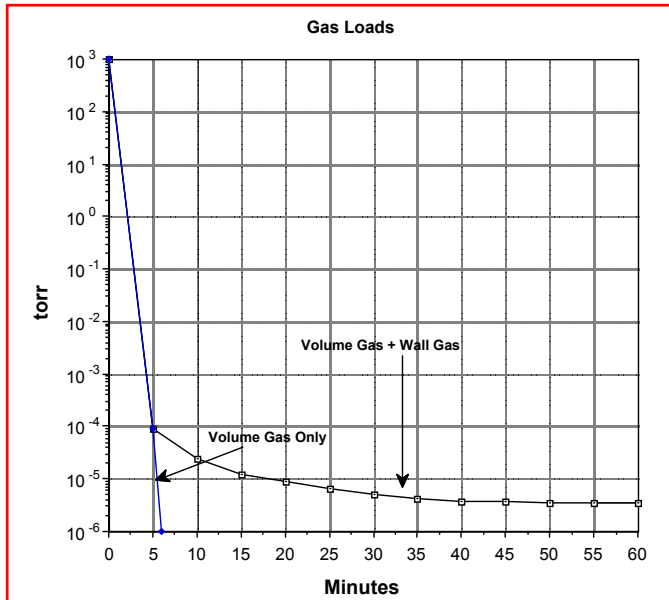
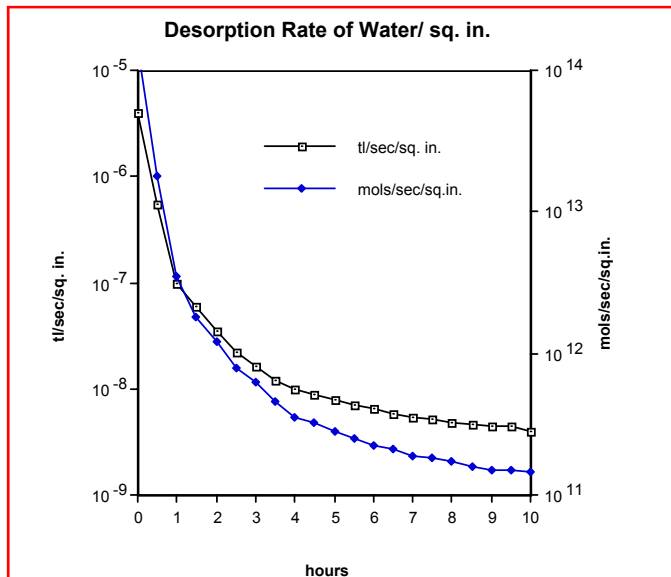

Figure 1.
Figure 2.
If the only gas load concern was that of volume gas, it would be easy to see that a pumpdown curve graph showing pressure vs. time would be a straight line much like the straight line shown in Figure 1. However, a pumpdown curve from a real
chamber would show the straight line devolving into a curve as is also shown in Figure 1. The actuality of that curve brings us to the second major gas load consideration: surface gas loads.
represents the major gas load to the pump. This surface gas load is almost always water vapor. Figure 2 shows the gas load (Q) of water vapor per unit surface area as a function of time. The first obvious relationship is that the smaller the surface area within the chamber, the lower the water vapor gas load. Additionally, note that the gas load becomes lower with time. Also note that the shape of the gas load curve in Figure 2 is the same shape as the curve in Figure 1. This needs further understanding.
inner surfaces in layers that can be several hundred monolayers thick when at atmospheric pressure. The bonds between the layers are strongest near the surface, but becomes steadily weaker and more disordered as the number of monolayers grow. The curve in Figure 2 showing a lowering of gas load with time is explained (oversimplified) by the fact that the weak bonds at the top of the layer allow the water to desorb at a higher rate than is shown later when the bed of layers is more highly eroded.